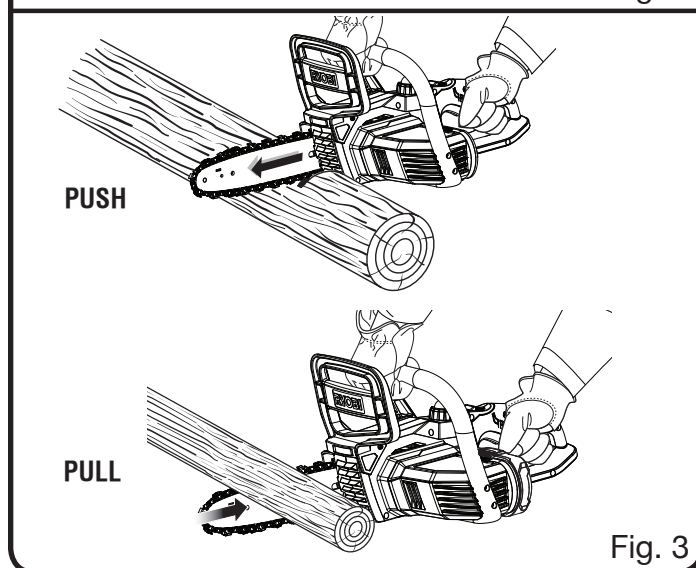

Fig. 3
- Push and Pull – This reaction force is always opposite to the direction the chain is moving where wood contact is made. Thus, the operator must be ready to control the PULL when cutting on the bottom edge of the bar, and PUSH when cutting along the top edge. *See Figure 3.*